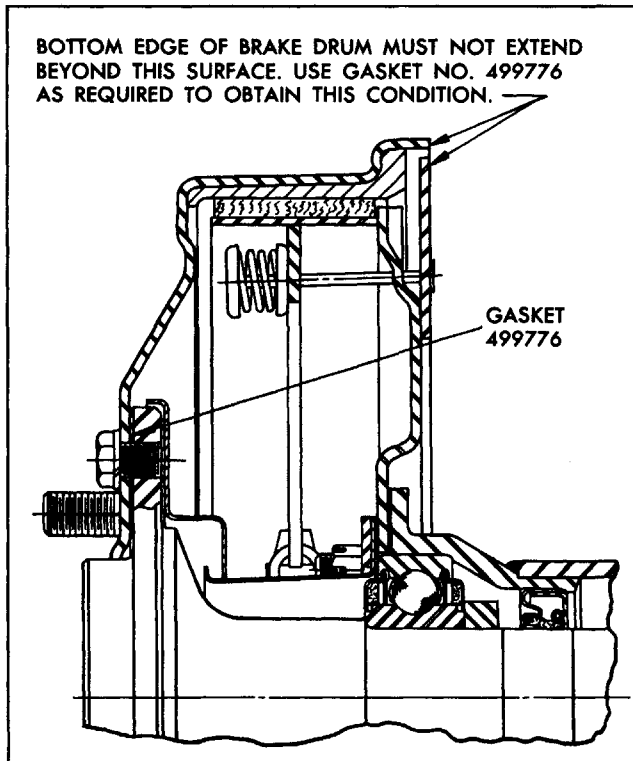

Fig. 4-10 Correct Alignment of Brake Drum Flange
12. Install brake drum and wheel. **NOTE:** When installing brake drum, check to see that edge of drum flange is even with shield on the backing plate as shown in Fig. 4-10. If flange extends over shield, install sufficient gaskets between axle flange and drum to obtain correct alignment.